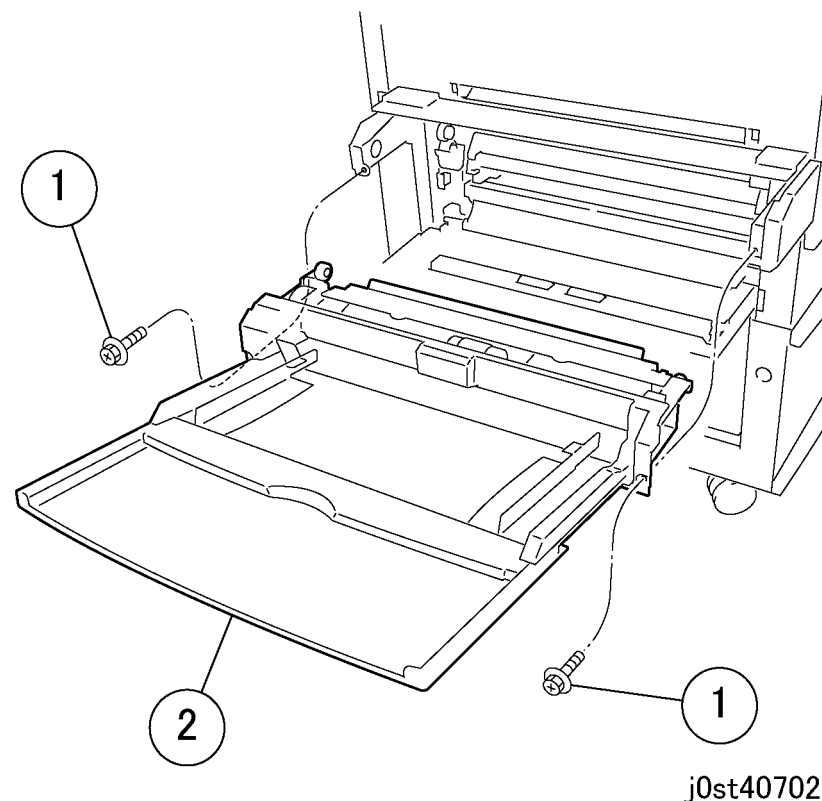

Figure 3 Removing the MSI Assembly
3. Remove the MSI Assembly. (Figure 3)